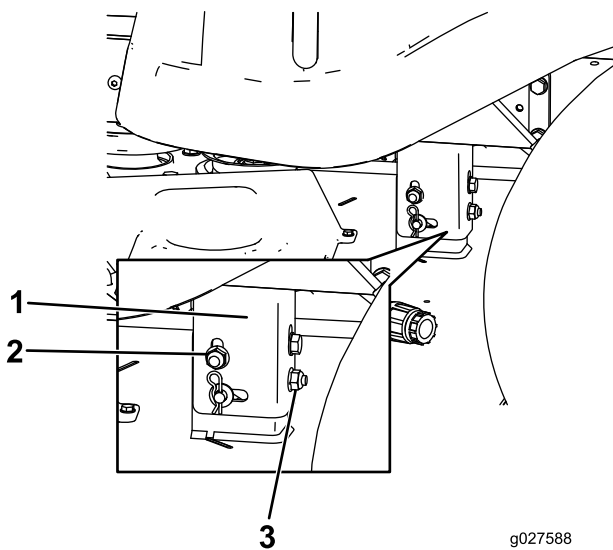

Figure 53
8. Raise or lower the left side of the mower deck by rotating the rear nut (Figure 53).
Note: Rotate the rear nut clockwise to raise the mower deck; rotate the rear nut counter-clockwise to lower the mower deck. (Figure 53).